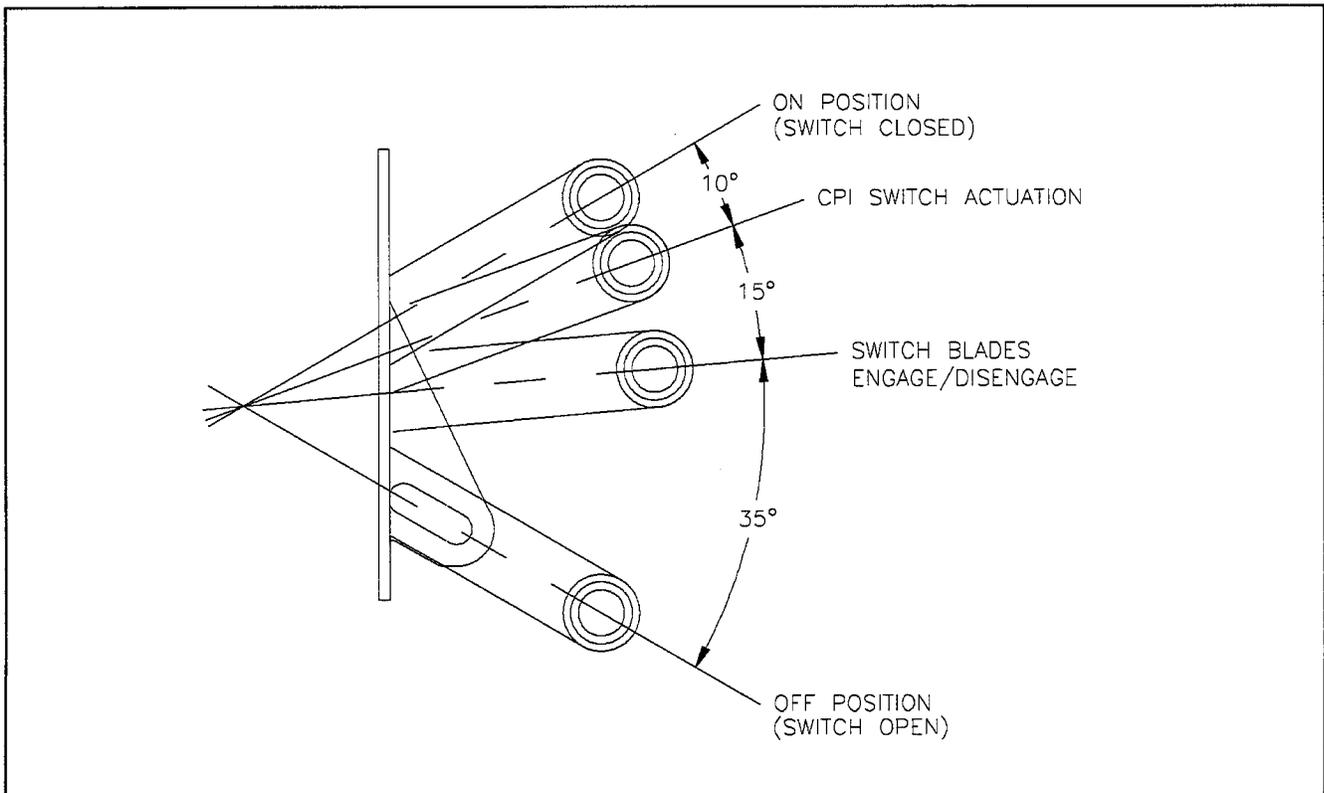

Fig. 57 Interlock Sequence Check
- Check that the CPI electrical interlock (microswitch) operates each time the handle is moved. The CPI (control power interlock) should close approximately 10° before the handle reaches the full ON position. As the handle is moved from ON to OFF, the CPI switch should open by the time the handle has moved approximately 10° or one inch (Fig. 57).